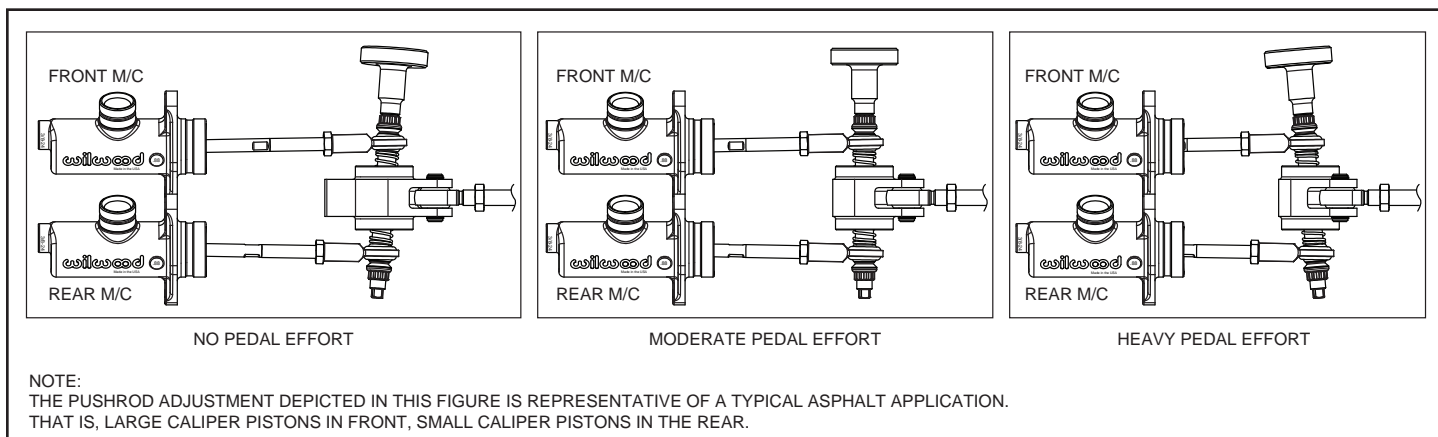

Figure 3. Balance Bar Lever Adjustment
- Figure 3 shows a typical rear wheel drive, front biased system as used on pavement oval track or road course cars, and the subsequent changes in the balance bar that occur through the full range of pedal travel. In this scenario, the front master cylinder pushrod is adjusted longer. For other configurations using a higher rear bias, the pushrod length settings would be the opposite.